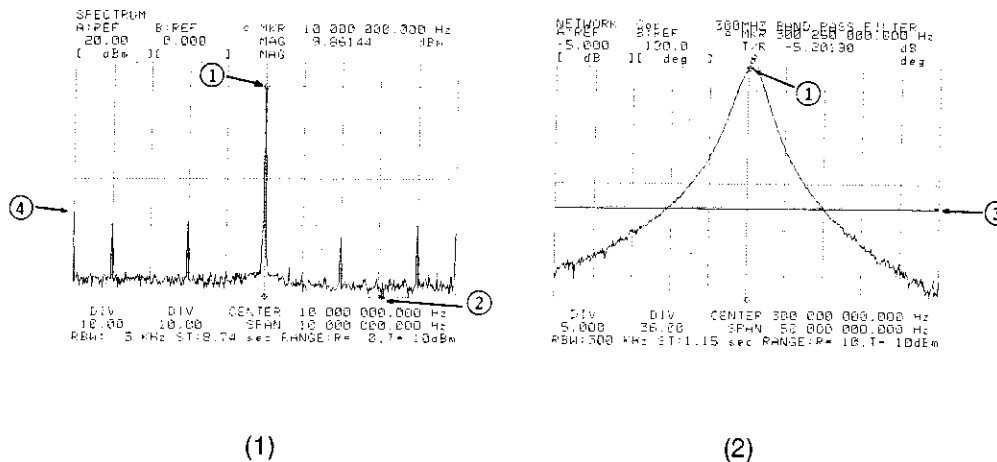

Figure 4-13. MKR→MAX, MIN, LCURS→AVRG and NEXT PEAK
To move the marker or line cursor to the position with the maximum value, press the '**MKR→MAX**' softkey or the '**LCURS→MAX**' softkey, respectively. If this softkey is pressed in the o & * markers mode (active oMKR) the o marker will move to point 1 as shown in Figure 4-13.
To move the marker or line cursor to the position with the minimum value, press the 'MKR→MIN' softkey or the 'LCURS→MIN' softkey, respectively. If this softkey is pressed in the **o & * markers mode** (active *MKR), the * marker will move to point 2 as shown in Figure 4-13, (1).
To move the line cursor to the position with the average value for the measurement data, press the 'LCURS→AVRG' softkey. If this softkey is pressed in the **o marker & Line Cursor mode**, the line cursor will move to position 3 as shown in Figure 4-13, (2).
To move the marker to the next lower peak referenced to the current peak, press the 'NEXT PEAK' softkey. If this softkey is pressed after the 'MKR→MAX' softkey in the **o & * markers mode** (active oMKR), the o marker will move to point 4 as shown Figure 4-13, (1).